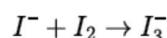

**Figure 14.6: A flash- photolysis relaxation experiment**
- When a flash is applied to a system, the system gets perturbed and rapidly from equilibrium, and a change in concentrations is seen. This will help to ascertain the kinetics of fast reactions (**Figure 14.6**).